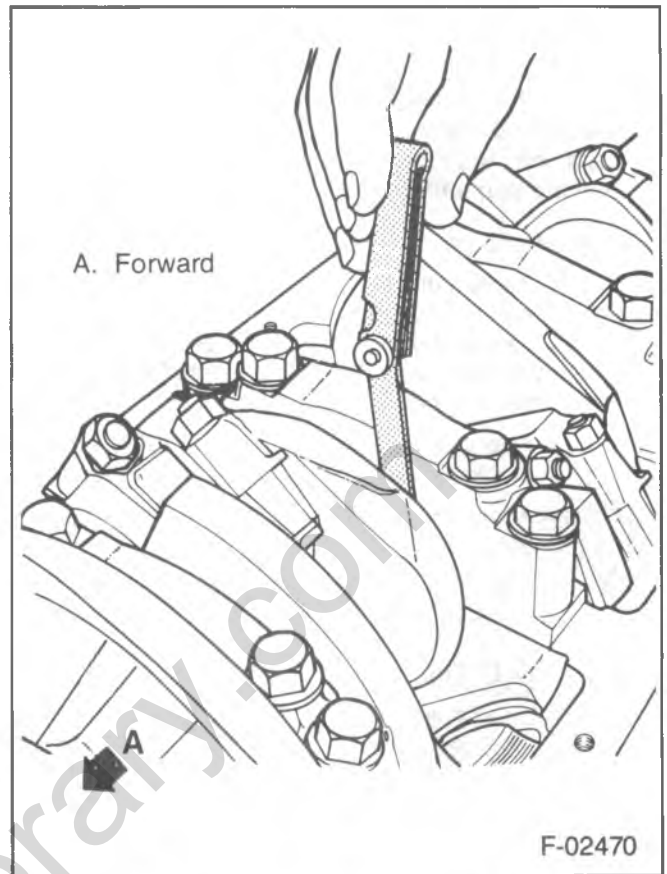

Figure 32—Measuring Crankshaft End Play
- With the crankshaft forced forward, measure at the front end of the number 3 main bearing with a feeler gage (figure 32). The proper clearance is 0.10–0.25 mm.